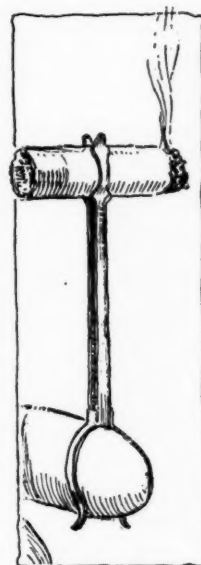

Fig. 4—Schiller
**Schiller Cigarette Holder**—The smoking automobilist who is fond of his cigarette will find the Schiller holder, Fig. 4, a very useful addition to this equipment. This device permits of holding the cigarette in a fitting position without interfering in any way with the other work one's hand has to do; for instance, the hand may be on the steering wheel and the cigarette holder being attached to it as shown in the illustration does away with all the trouble that formerly was necessary if one would hold a steering wheel and cigarette at the same time. The device is 2 inches long and gold plated in a nice manner to fit any surroundings. The Schiller Mfg. Co., 175 North State street, Chicago, Ill., manufactures this accessory.